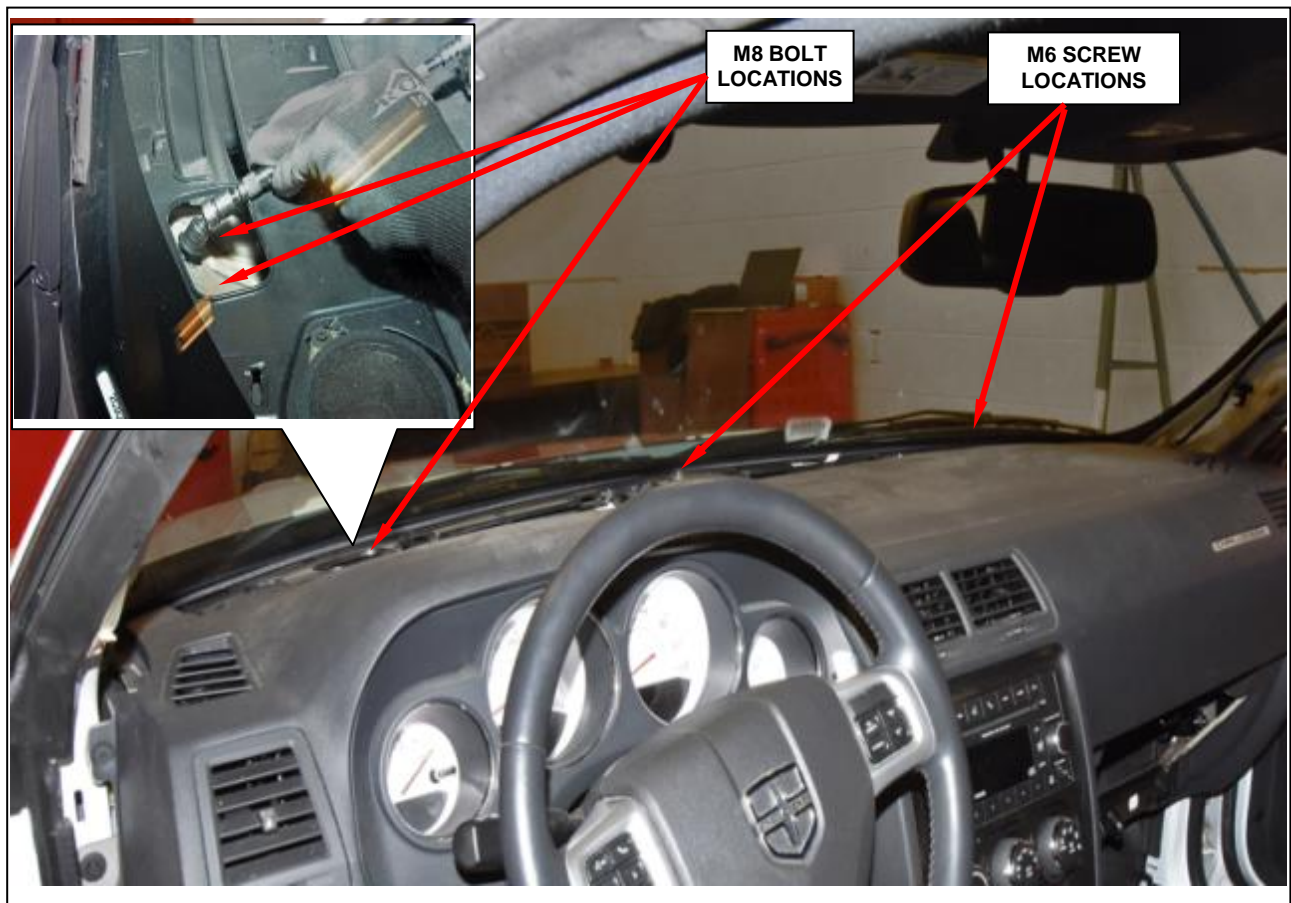

Figure 74 – Top Instrument Panel Fasteners
33. Remove the defroster grille to access the instrument panel top retaining bolts then remove and save the two M8 bolts and two M6 screws (Figure 74).